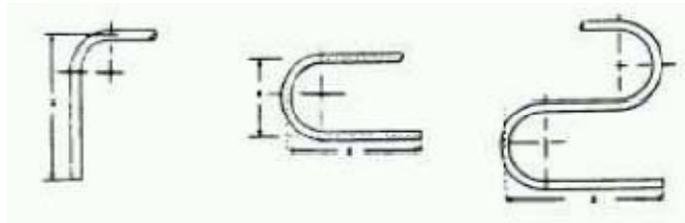

Figure 8-42. Measuring for More Than One Bend
4. If more than one bend is required (Figure 8-42), measure from the center line of the first bend leg and mark per drawing dimension. Proceed with bend as described in Step 2.